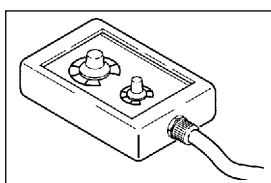

Fig. 8
2.2.4 Remote control RC07 for MIG/MAG welding (Fig. 8)